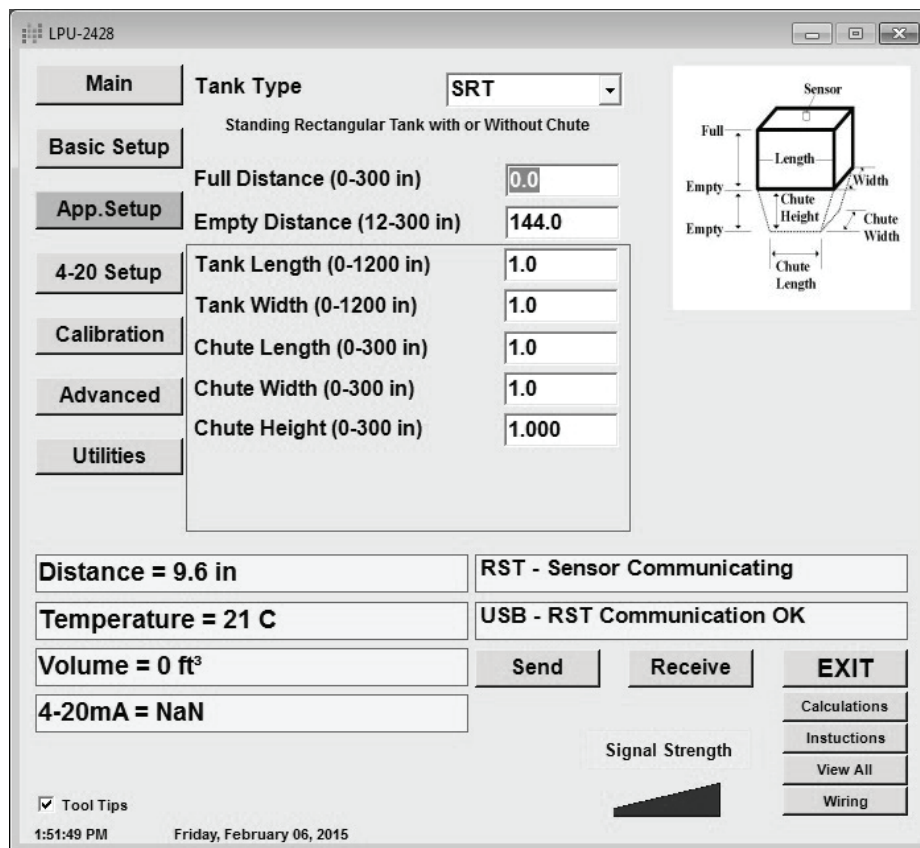

Figure 4.9
*Tank Length* (*T Length* on the RST-4001) sets the length of a rectangular (SRT) or horizontal cylindrical (HCT) tank. (See Figures 4.9 and 4.10)
*Tank Width* (*T Width* on the RST-4001) sets the width of a rectangular (SRT) tank. (See Figure 4.9)
*Chute Length* (*C Length* on the RST-4001) sets the length of a chute under a rectangular (SRT) tank. The length of the chute is in the same direction as the length of the tank. (See Figure 4.9)
*Chute Width* (*C Width* on the RST-4001) sets the width of a chute under a rectangular (SRT) tank. The width of the chute is in the same direction as the width of the tank. (See Figure 4.9)
*Chute Height* (*C Height* on the RST-4001) sets the height of a chute under a rectangular (SRT) tank. (See Figure 4.9)